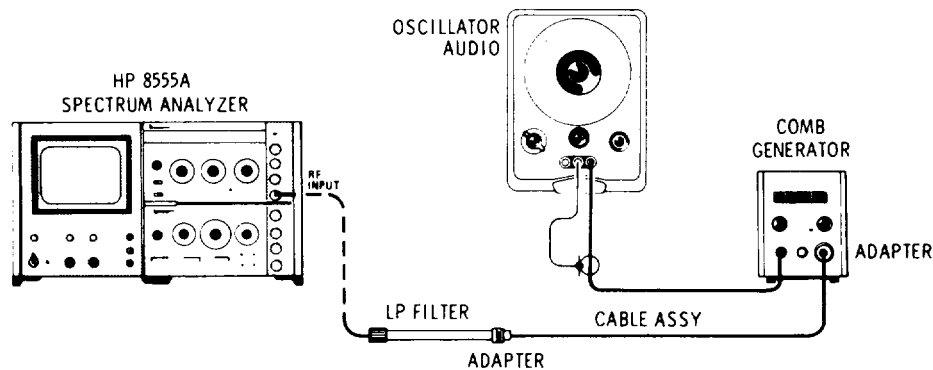

Figure 4-5. Scan Width Accuracy Test Setup
6. To test the 50 kHz SCAN WIDTH PER DIVISION setting, connect the test setup shown in Figure 4-5. Set controls as follows: